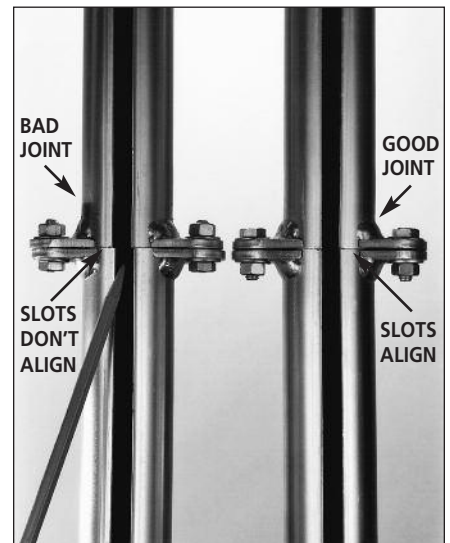

Figure 8
- **Figure 8** shows typical misalignment.